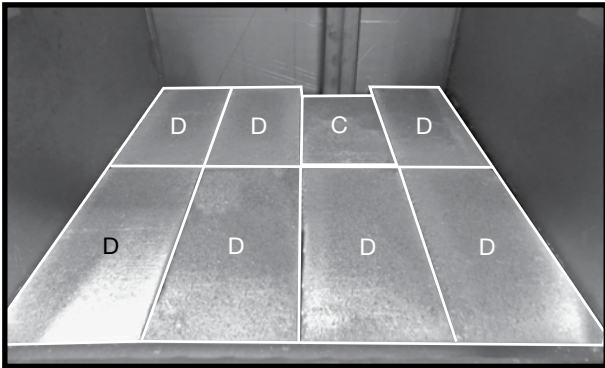
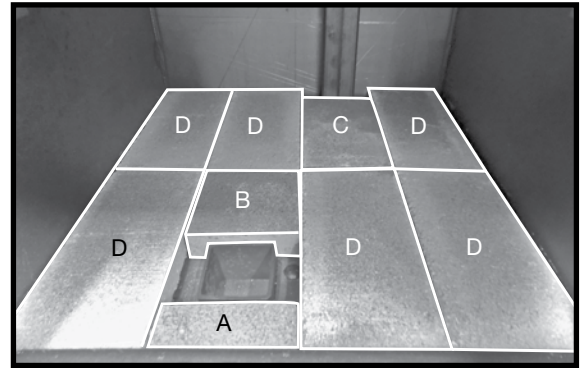

Figure 19: Floor layout without ash dump.
Figure 20: Firebricks on floor .
1. Install the floor firebricks; For units **without an Ash Dump** use full size "D" bricks See "Figure 19: Floor layout without ash dump." on page 24. For unit **with the Ash Dump** installed, 2 small bricks ("A & B" in Fig 20) will be used on either end of the ash dump in addition to the regular sized "D" bricks used in the rest of the installation.